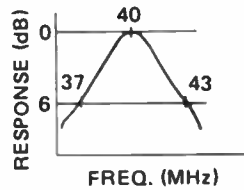

FIGURE 6. VHF Lo
- Step 3: Adjust T8, T9 and T10 of RF section for maximum output and best curve symmetry as shown in Figure 6.